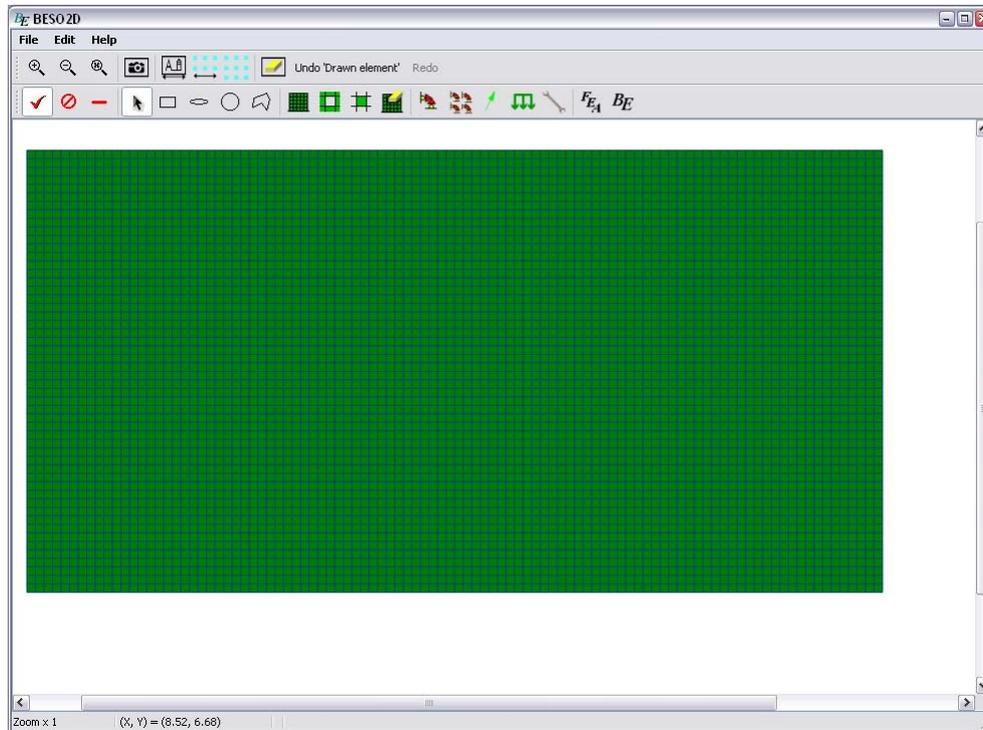

Figure 3 A finite element mesh is generated for the structural model.
- By clicking on the  button in the **Draw/Run Toolbar**, the “Generate mesh” dialogue will appear. Input 0.10 for the distance between two adjacent nodes and then click on “Generate”. Now the meshed structural model is obtained as shown in Figure 3.